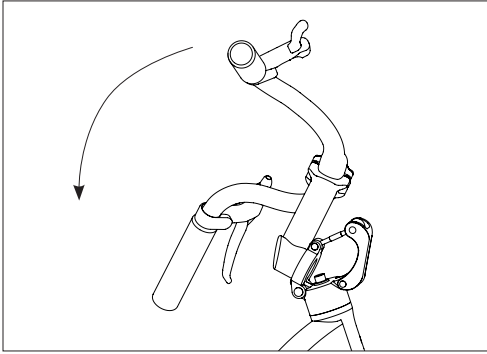
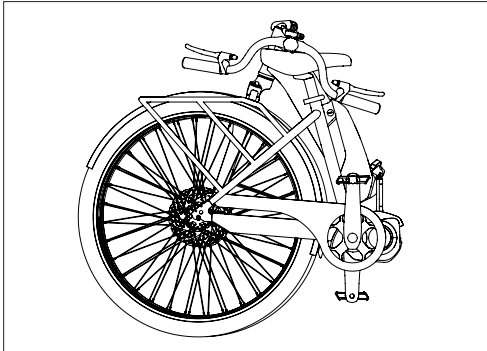

Fig. 36: Fold down the handlebars.
Fig. 37: Folded bike.
10. Pivot the handlebars to the down position. (Fig 36, page 38). The saddle should be nestled in the middle of the handlebars (Fig. 37, page 38)